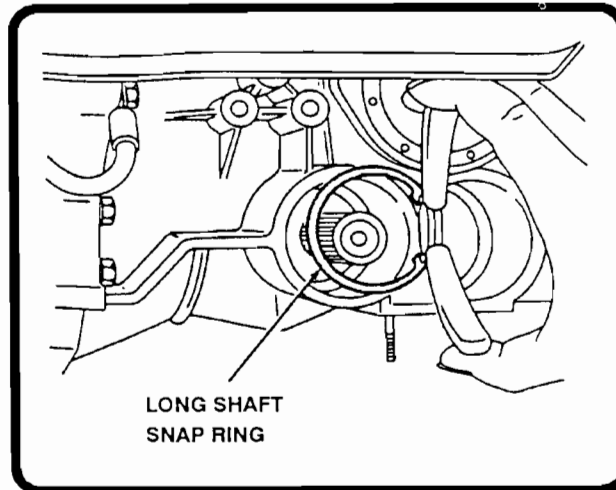

Figure 3
3. Remove the long shaft snap ring (Figure 3).